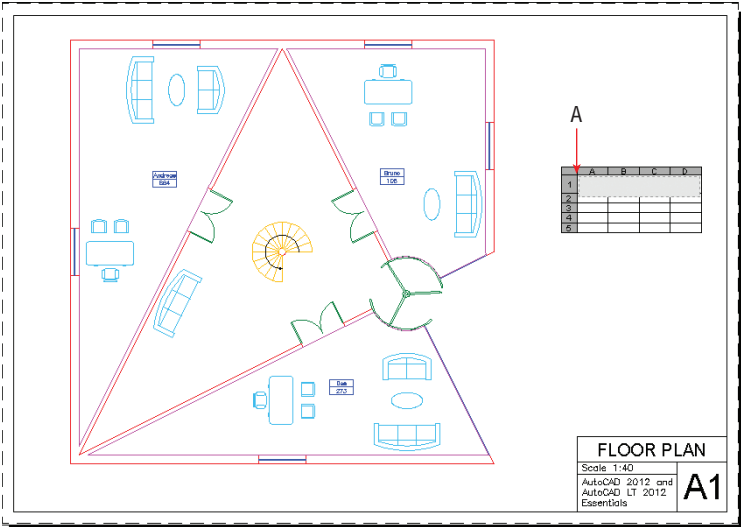

FIGURE 15.19 Placing a new table on the layout
- 10. Click approximately at point A in Figure 15.19 to place the empty table on the layout.